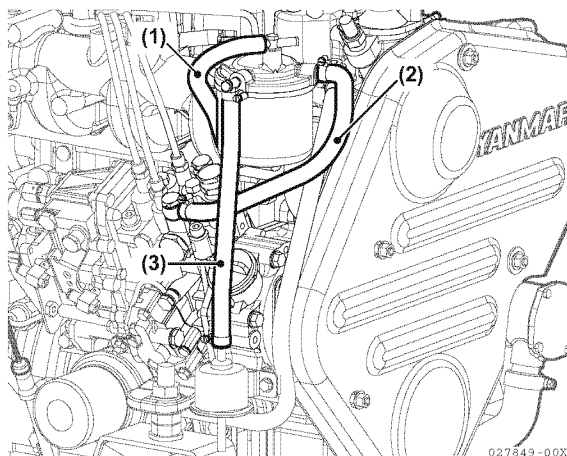

Figure 5-198
- 71. Install the fuel pipe (fuel feed pump-fuel filter, fuel filter-fuel injection pump) (Figure 5-198).